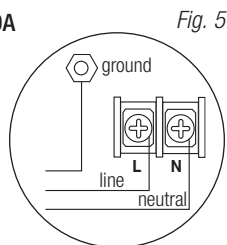

Fig. 5
1. Mount the unit in the desired location. Mark and predrill holes in the wall to line up with the top two keyholes in the enclosure. Install two upper fasteners and screws in the wall with the screw heads protruding. Place the enclosure's upper keyholes over the two upper screws; level and secure. Mark the position of the lower two holes. Remove the enclosure. Drill the lower holes and install two fasteners. Place the enclosure's upper keyholes over the two upper screws. Install the two lower screws and make sure to tighten all screws (*Enclosure Dimensions*, pg. 19). Secure enclosure to earth ground (*Fig. 5*, pg. 5). Small terminal block wire gauges range from 16 AWG to 24 AWG, all others range from 14 AWG to 24 AWG.
1. **AL1042ULADA:** connect line (L) and neutral (N) terminals to a separate unswitched AC circuit (120VAC, 60Hz) dedicated to the Fire Alarm System (Fig. 5 pg. 5).